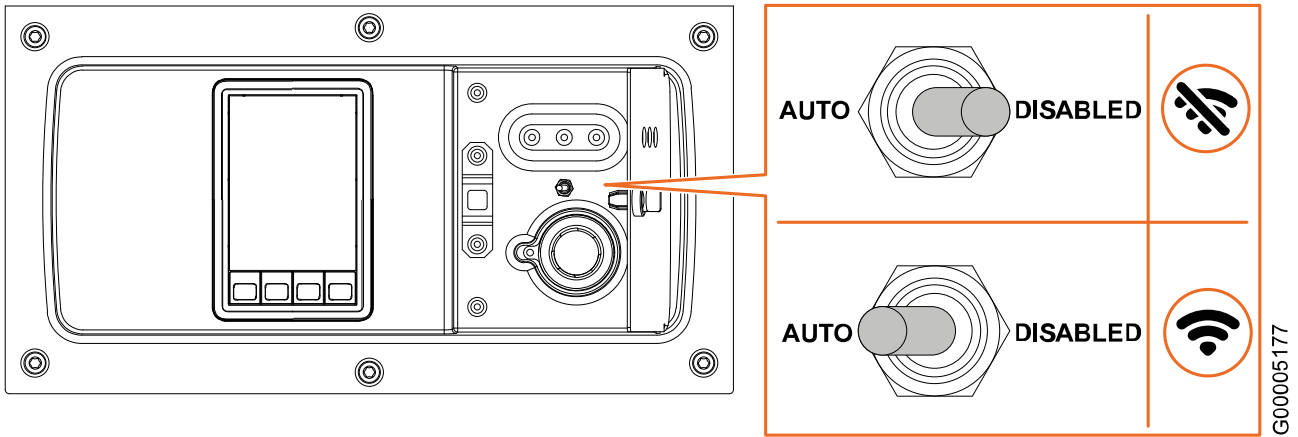

Fig. 37 Connectivity switch
- Connectivity switch towards **DISABLED**: The connectivity is disabled. The top icon in **Fig. 37** is shown on the display.
- Connectivity switch towards **AUTO**: The connectivity is in automatic flight detection mode. The lower icon in **Fig. 37** is shown on the display (empty if there is no reception, filled if there is reception). If the connectivity switch is switched towards **AUTO** while the container is close to an aircraft, the connectivity will not be turned on until the container has left the aircraft.